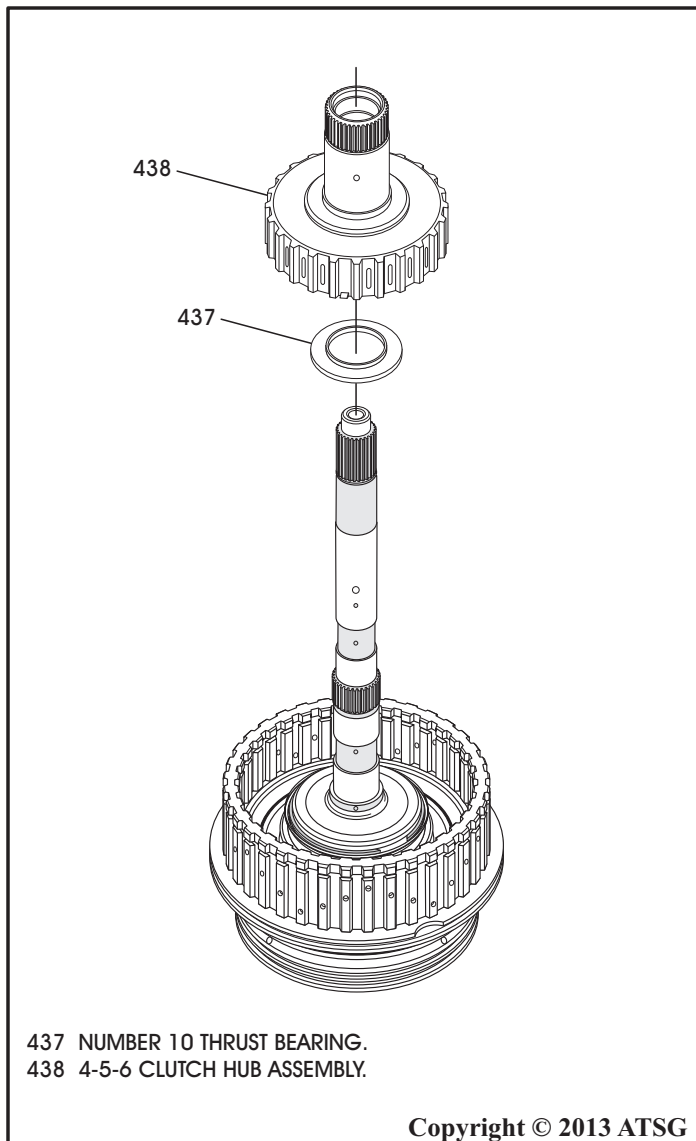

Figure 145
19. Remove the 4-5-6 clutch hub and the number 10 thrust bearing, as shown in Figure 145.